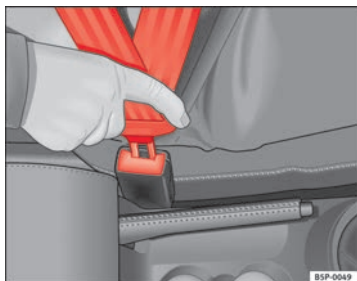

Fig. 12 Belt buckle and latch plate of seat belt
- Insert the latch plate into the buckle for the appropriate seat and push it down until it is securely locked with an audible click ⇒ fig. 12.